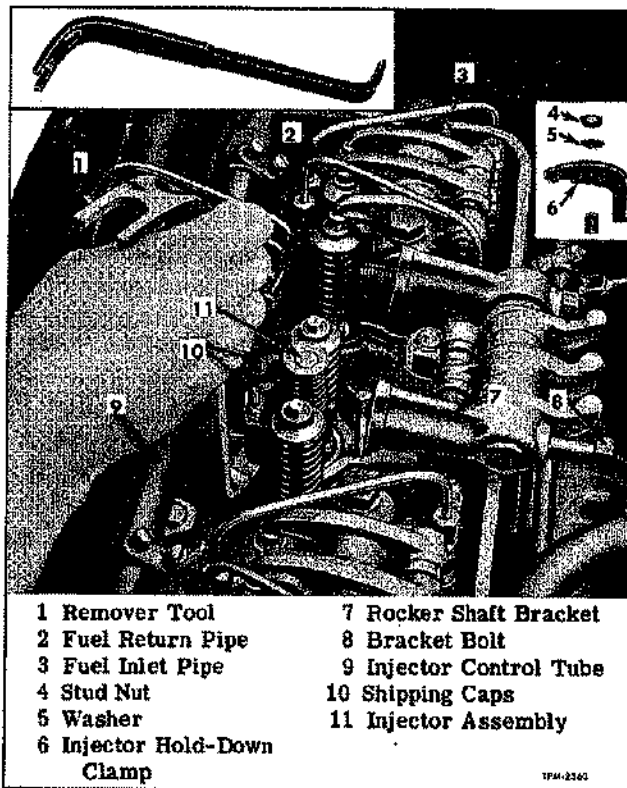

Figure 8—Removing Injector from Cylinder Head
6. Using tool as illustrated in figure 8, pry injector from its seat.